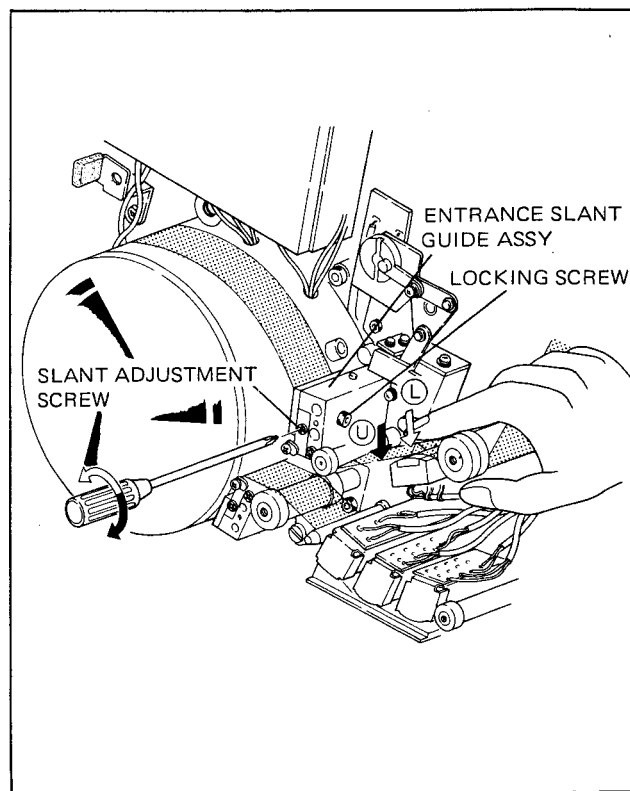

Fig. 3-73-2. Slant Adjustment of Entrance Slant Guide
- a By pushing \textcircled{U} or \textcircled{L} point of the running tape as shown in Fig. 3-73-2, find out the side whose RF waveform is similar to (a) of Fig. 3-73-1.
12. Lightly push **U** or **L** side of the tape shown in Fig. 3-73-2 and find out the side whose RF waveform on the tape entrance side becomes flat.